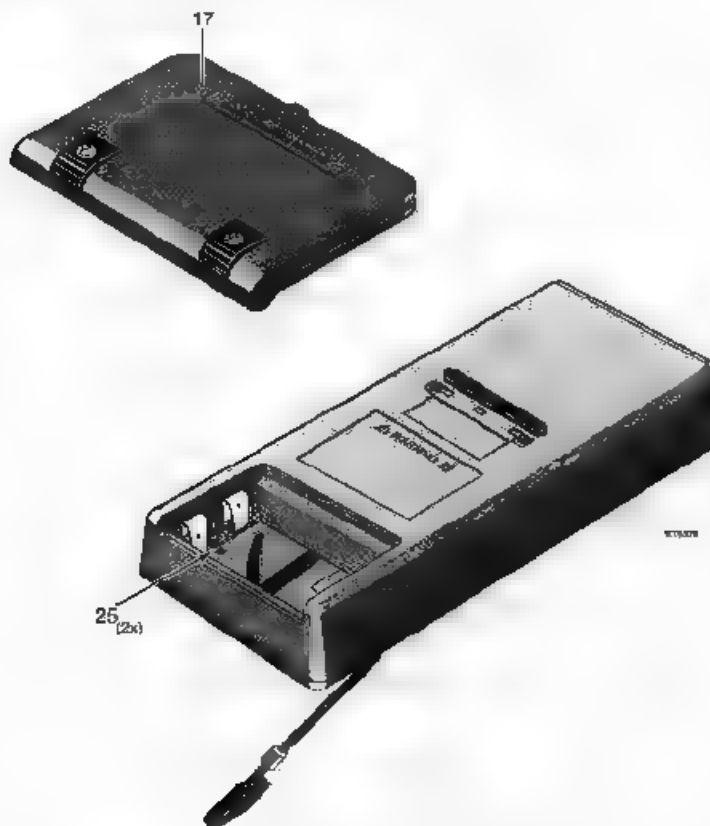

Figure 5.1 Position of the +12V and 0 contacts for calibration (items 25)
If you have removed the ScopeMeter battery pack and the battery cover (figure 5.1, item 17), you will have access to the +12V/0 contacts (figure 5.1, item 25). These contacts are placed in the left middle (+12V) and the right middle (0) of the battery compartment. Connect +12V DC to the contact marked "+12V" and 0V to the contact marked "0".